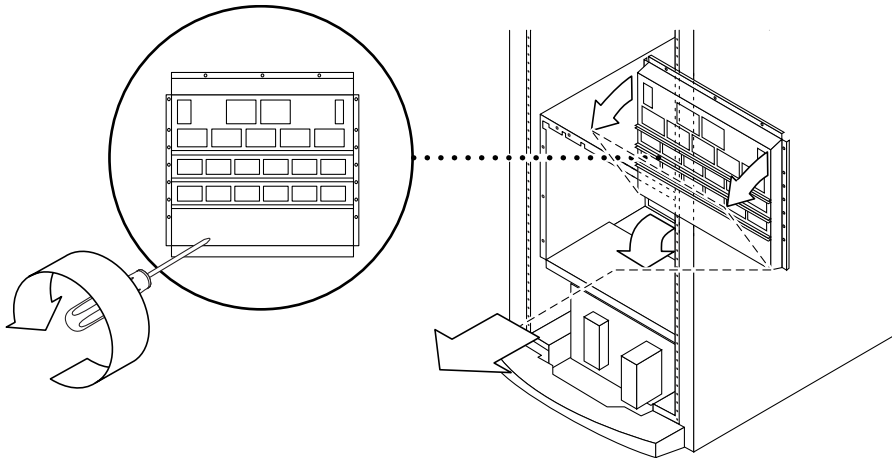

FIGURE 12-34 Removing the Centerplane—Sun Fire 3800 System
14. Disengage the centerplane from the guide pin in the center of the cabinet. Hold the centerplane, with one hand on the top and one hand on the middle while you are detaching it from the guide pin (FIGURE 12-34). Remove the centerplane.
2. **At the rear of the system, install the centerplane (FIGURE 12-34).**